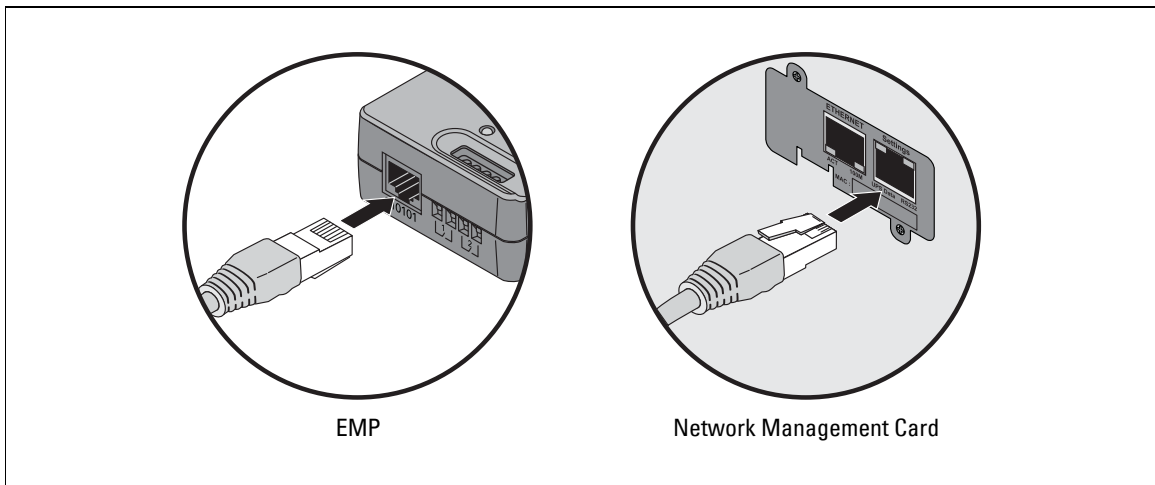

Figure 4. Connecting the Cable
- 2 Locate the Ethernet cable (supplied). Connect one end of the cable to the RJ-45 port on the EMP, then connect the other end to the Settings port on the Network Management Card (see Figure 4).